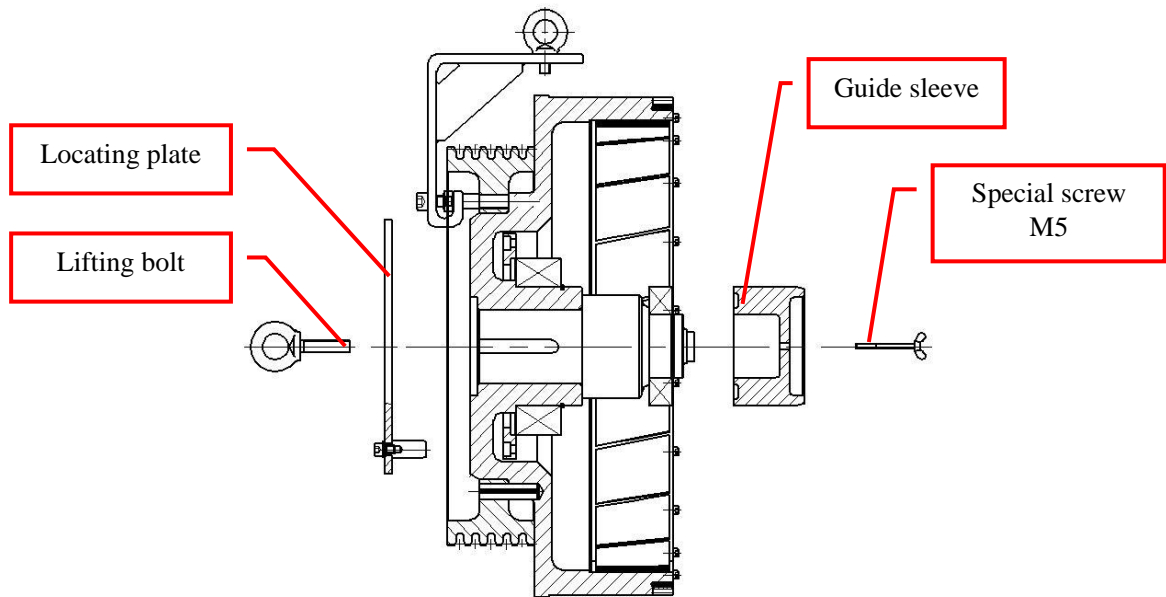

Figure 66: Install guide sleeve and locating plate
- Install the guide sleeve and screw in special screw M5 to secure. Install locating plate, and screw in lifting bolt M12 to secure. See Figure 66.